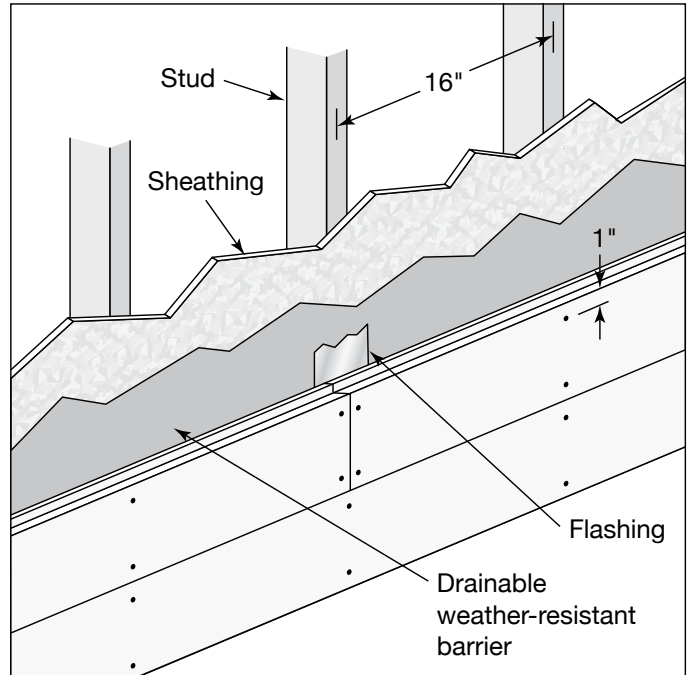

Fig. 2
- TruExterior Siding must be installed on frame-built walls with studs spaced 16 in. O.C. or at most 24 in. O.C. (**Fig. 2**).
- The wall may be sheathed with O.S.B. panels depending on local codes. TruExterior Siding must be fastened at the locations of the studs (**Fig. 2**).